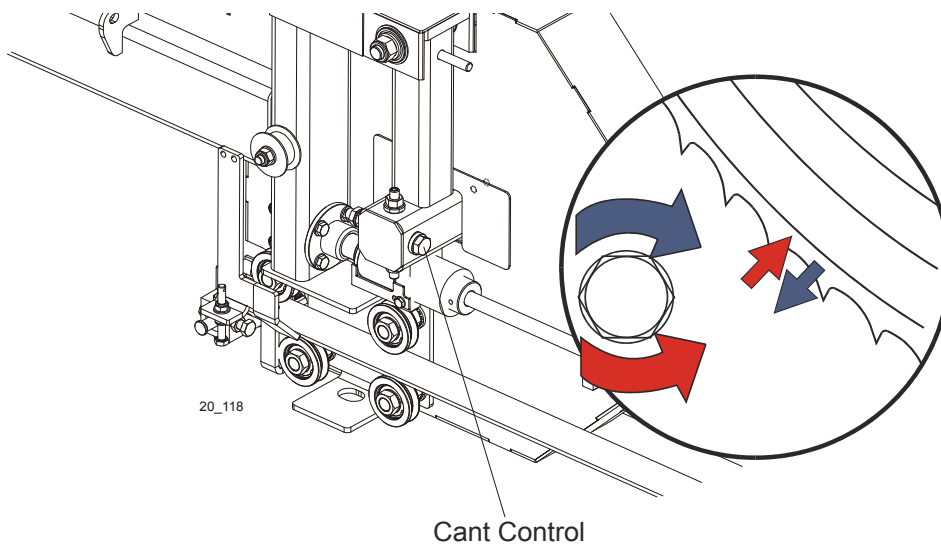

FIG. 6-7
**See Figure 6-7.** Use the cant control adjustment to adjust the idle-side blade wheel. If the blade is too far forward on the wheel, turn the cant control counterclockwise. If it is too far back on the wheel, turn the cant control clockwise.